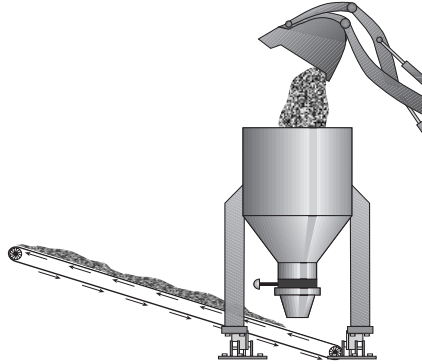

Figure 1-5
- A.** One of the simplest hopper weighing systems is illustrated below in Figure 1-5. The weigh hopper may be filled using a feed conveyor, front-end loader, auger, etc., and the material may be removed from the hopper using a discharge conveyor.